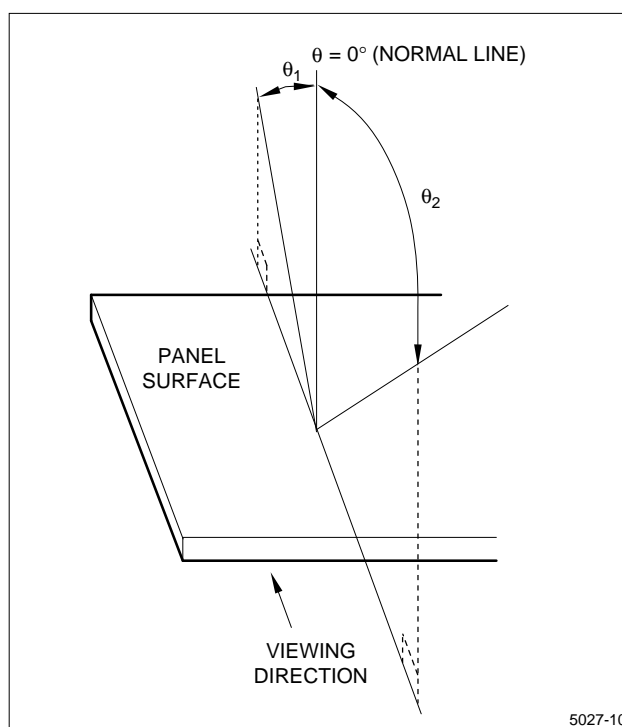

Figure 10. Dot Matrix LCD Viewing Angle
- This unit's viewing angle is illustrated in Figure 10 and as follows: